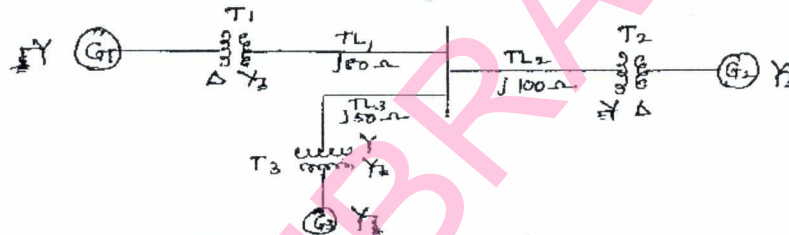

Fig.Q1(c)
- c. The one line diagram of an unloaded generator is shown in Fig. Q1(c). Draw the PV reactance diagram. Choose a base of 50 MVA, 13.8 KV in the circuit of generator G_1 .